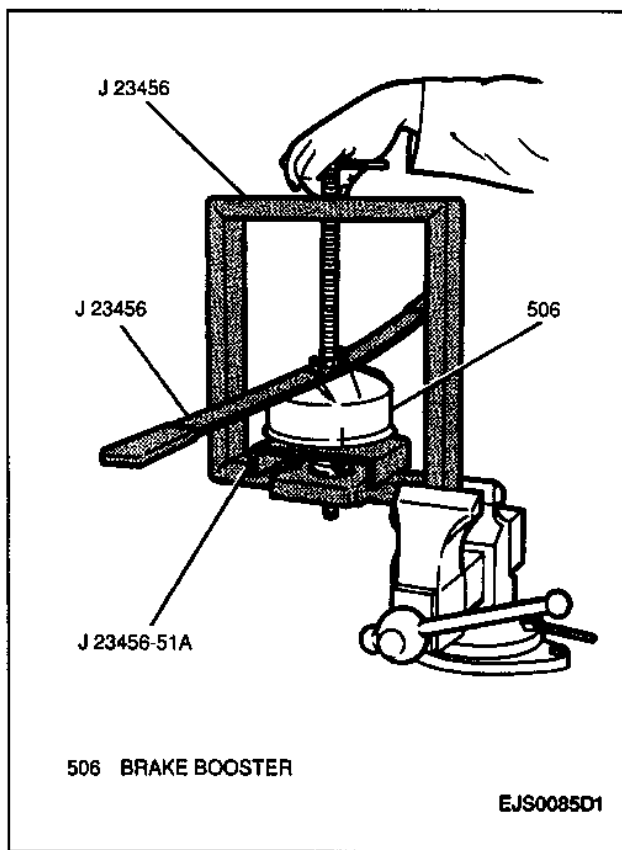

Figure 8—Installing Brake Booster into J 23456 and J 23456-51A
3. Mount brake booster into a vise-mounted J 23456 along with a J 23456-51A. Tighten fixture center screw enough to secure booster but not enough to inhibit rotation of the booster (Figure 8).